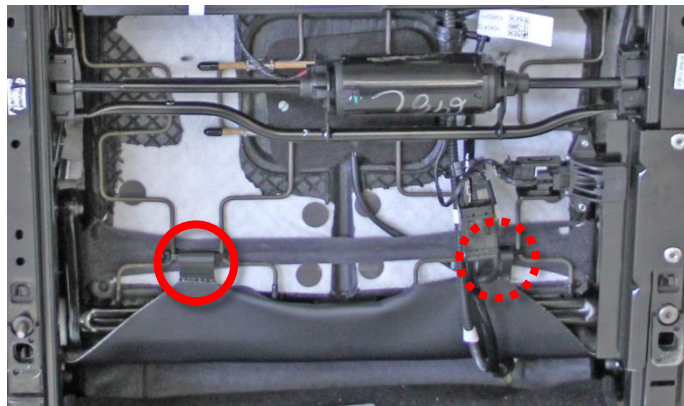

Figure 8
7. Install 5 mm wide cable ties around the rearmost flex mat springs and hook the 2 lower, outer seat cushion trim J-hooks onto the cable ties (Figures 8 and 9). Trim the excess portion of the cable ties so that they do not vibrate against the flex mat.